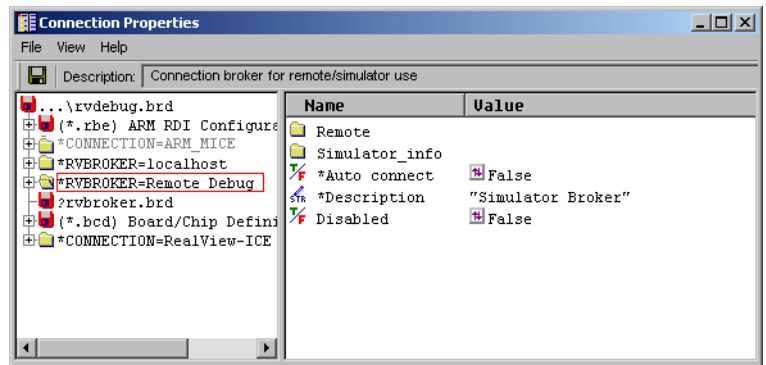

Figure 6-3 Displaying the new Remote_Debug connection properties
5. Click **OK**. The new entry, RVBROKER=Remote_Debug, is added to the List of Entries in the Connection Properties window, shown in Figure 6-3.
6. Right-click on Remote in the right pane, shown in Figure 6-3, and select **Explore** from the context menu.
10. Right-click on Description in the right pane, shown in Figure 6-3 on page 6-7, to display the context menu. Select **Edit Value** and enter a short description for the new connection, for example Remote sim on network TESTPC1.